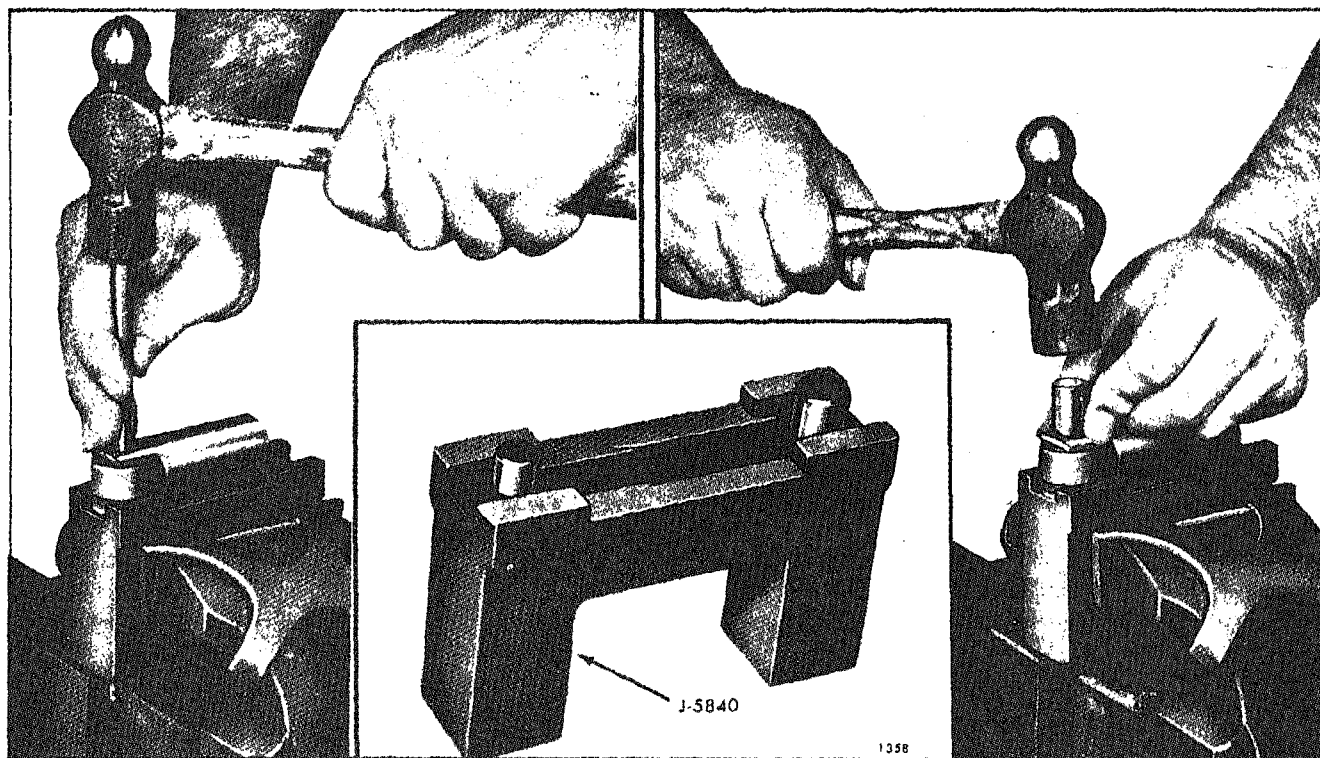

Fig. 7 - Removing or Installing Cam Follower Roller and Pin with Tool J 5840
1. Clamp fixture J 5840 securely in a vise as shown in Fig. 7 and place the cam follower in the groove in the top of the fixture with the follower pin resting on top of the corresponding plunger in the fixture.
6. Position the roller in the cam follower body (Fig. 7). The small plunger in the tool will align the roller with the pin holes in the follower body.